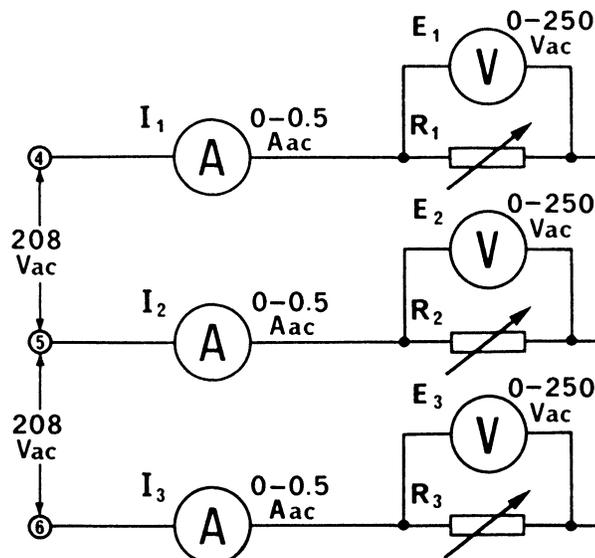

Figure 45-2.
- 5. a. Using your Resistive Load, AC Ammeter and AC Voltmeter connect the WYE circuit shown in Figure 45-2. Use a separate resistance section for each of the loads  $R_1$ ,  $R_2$  and  $R_3$ . Do not connect the neutral of the resistance module to the neutral of the power supply.